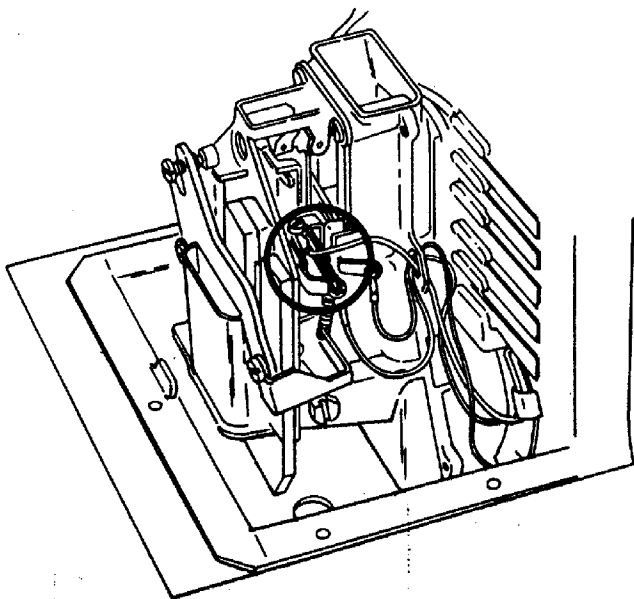

Figure 4. Use of Paper Clip to Bypass Ground Contacts.
- (2) With the coin trigger unoperated, provide a substitute path to ground the relay. If a clip lead is available, connect it to relay terminal 4 (or G) and to the resistor lead which terminates at the first and fourth contact springs. If no such lead is at hand, slightly widen the larger U-bend of a common #1 paper clip and insert the clip under the bent portion of relay terminal 4 (or G) as shown in Figure 4, so that it touches the edge of the clamped portion of the stop spring for the fourth contact spring. Be sure the clip does not touch relay terminal 3, and is not inserted far enough to interfere with the contact springs.
- (3) Lift the handset, listen for dial tone, and dial a local selection digit. It should not be possible to break dial tone. If dial tone remains unbroken, remove the paper clip or clip lead and proceed to other tests.
- (4) If it is possible to break dial tone, check the dial shorting contacts with the trigger unoperated to insure that